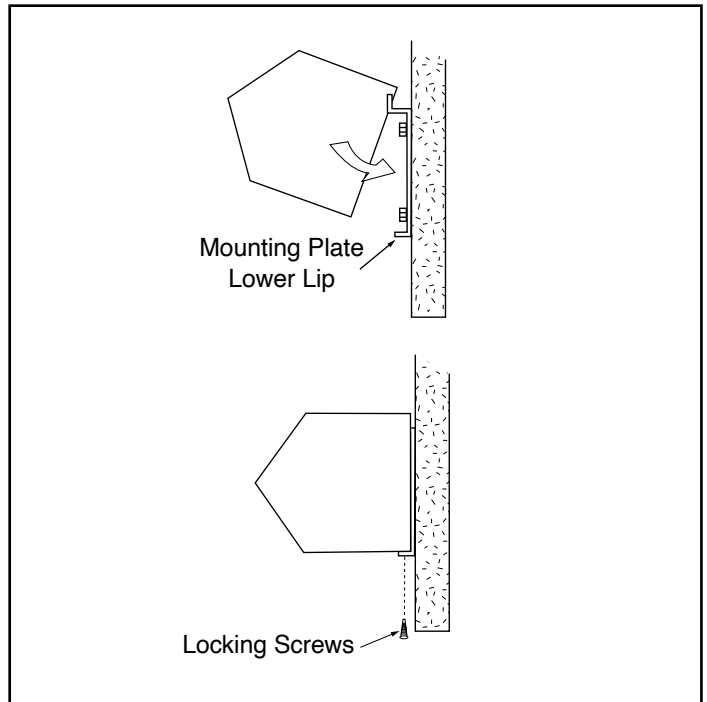

FIGURE 5 - Attaching Unit to Mounting Plate
- E. Raise the unit over the door (air nozzle facing down) and onto the mounting plate. Tilt the unit upward, matching the holes in the frame with the tabs on the mounting plate. **See FIGURE 5.**
- G. After the unit is securely seated to the mounting plate, install the locking screws along the bottom flange. **See FIGURE 5.**